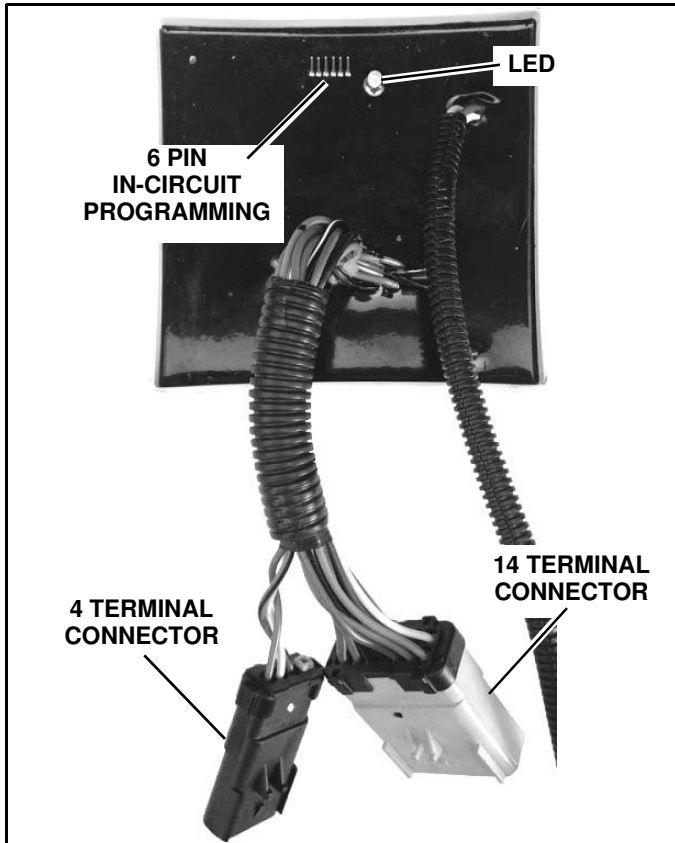
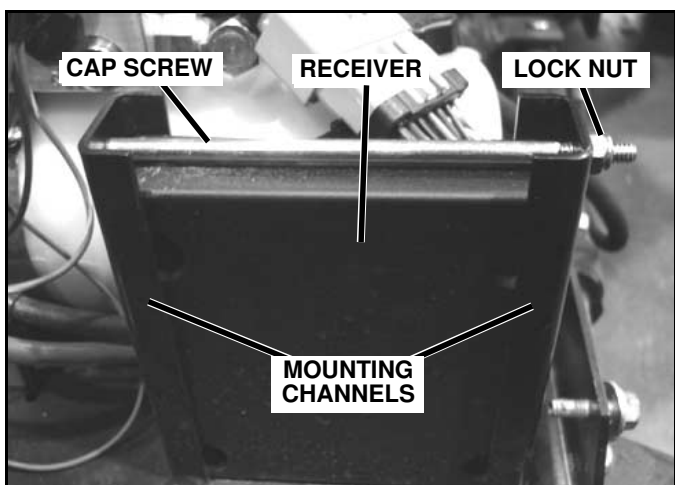

Figure 1-1
Figure 1-2
3. With the 6-pin in-circuit programming pins positioned on the top of the unit (See Figure 1-1), slide the receiver module into the receiver mounting channel with the exposed wires of the receiver box positioned toward the hydraulic reservoir (See Figure 1-2).